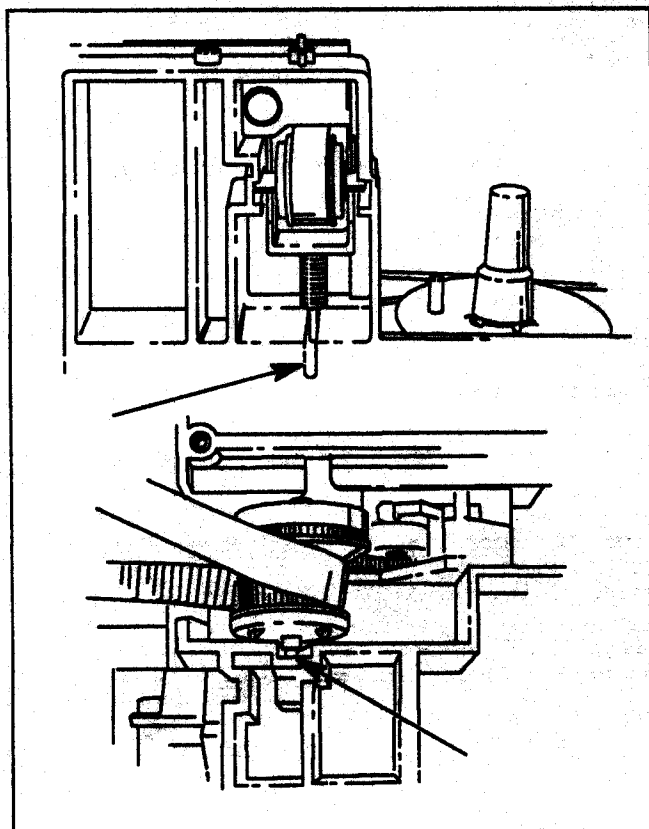

Figure 6-27. Y Arm Removal
- c. Release the tension on the pen carriage belt at the left side of the chassis by reaching under the chassis and very carefully pulling the belt tensioner tab toward the left end of the plotter. See Figure 6-27.
- g. Unsnap the axle of the double pulley from the chassis. See Figure 6-27.